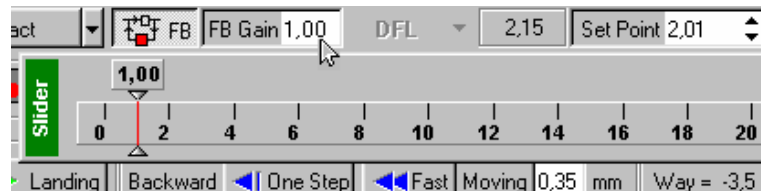

Fig. 3-12
- Open **FB Gain** adjustment window by double-clicking the mouse button in FB Gain value field (Fig. 3-12). Watch the value of **DFL** signal on the oscilloscope while increasing the value of **FB Gain**.